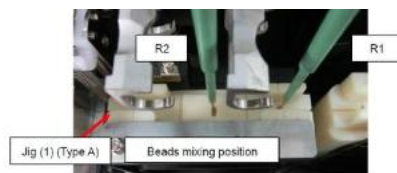

Figure 3.6 Inner R. pack (Reagent) Adjustment position
- Move both RS Probes down to **Jig Type A**. (Figure 3.6)